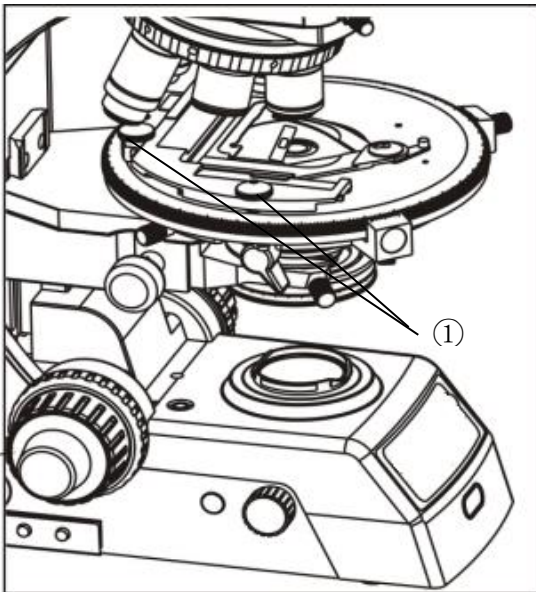

Figure 4
**3-4 Specimen placement (figure 4)**
Move the sample to the desired position by ① on The Rotating Figure 4.